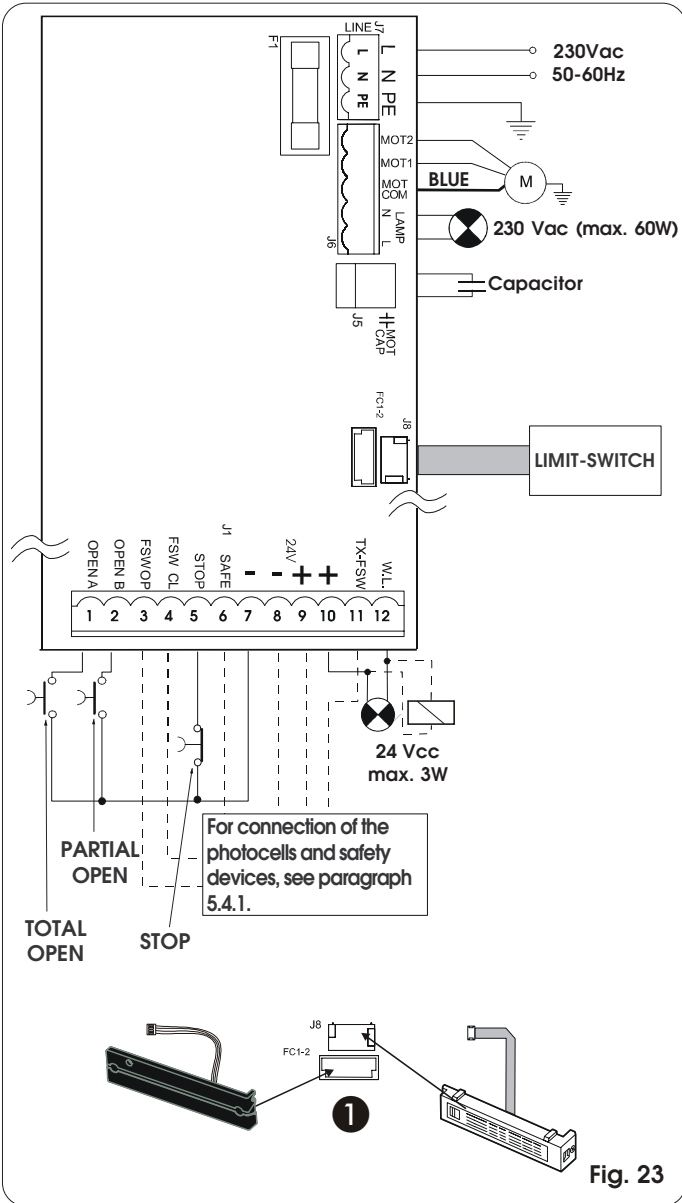

Fig. 23
**5.4.2. J7 Terminal board - Power supply (fig. 23)**
**5.4.3. J6 Terminal board - Motors and flashing lamp (fig. 23)**
**5.4.4. J1 Terminal board - Accessories (fig. 23)**
Quick-fit connector for connecting the limit -switch. For connecting both the MLS limit-switch and the inductive limit-switch (fig. 23 ref. 1) to the equipment.